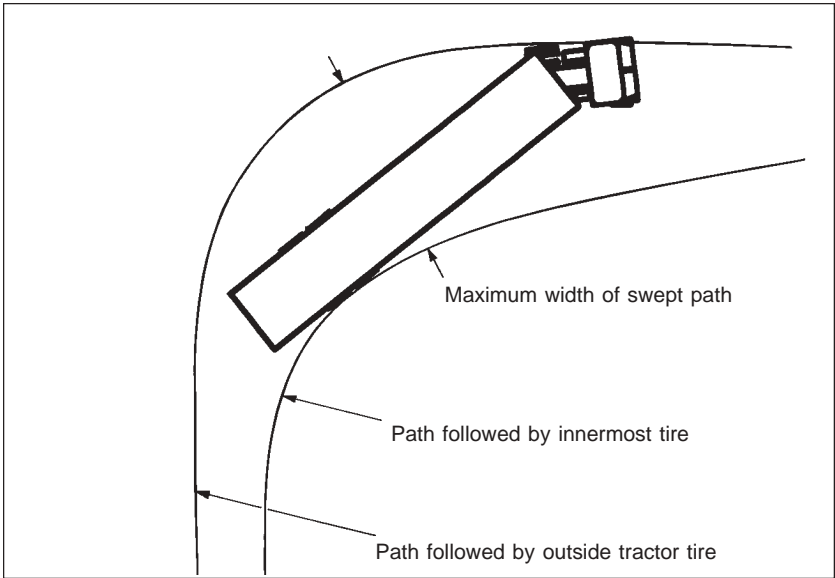
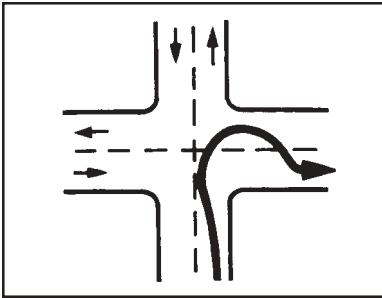

Figure 6-4
Figure 6-5
When a vehicle goes around a corner, the rear wheels follow a different path than the front wheels. This is called **offtracking** or "cheating." Figure 6-4 shows how offtracking causes the path followed by a tractor-semi to be wider than the rig itself. Longer vehicles will offtrack more. The rear wheels of the powered unit (truck or tractor) will offtrack some, and the rear wheels of the trailer will offtrack even more. If there is more than one trailer, the rear wheels of the last trailer will offtrack the most. Steer the front end wide enough around a corner so the rear end does not run over the curb, pedestrians, other vehicles, etc. However, keep the rear of your vehicle close to the curb. This will stop other drivers from passing you on the right. If you cannot complete your turn without entering another traffic lane, turn wide as you **complete the turn** (Figure 6-5). This is better than swinging wide to the left before starting the turn because it will keep other drivers from passing you on the right. If drivers pass on the right, you might collide with them when you turn.
5. Why should you turn like it shows in Figure 6-5?